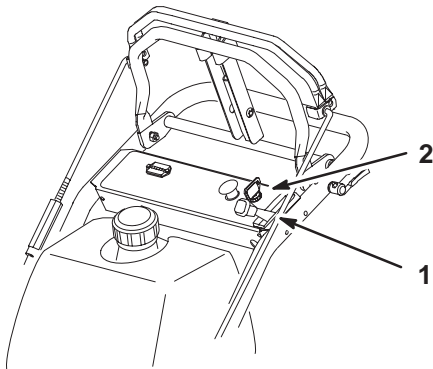

Figure 11
1. Move the throttle lever to “SLOW” (Fig. 11).
3. Turn the ignition key to “OFF” (Fig. 11).